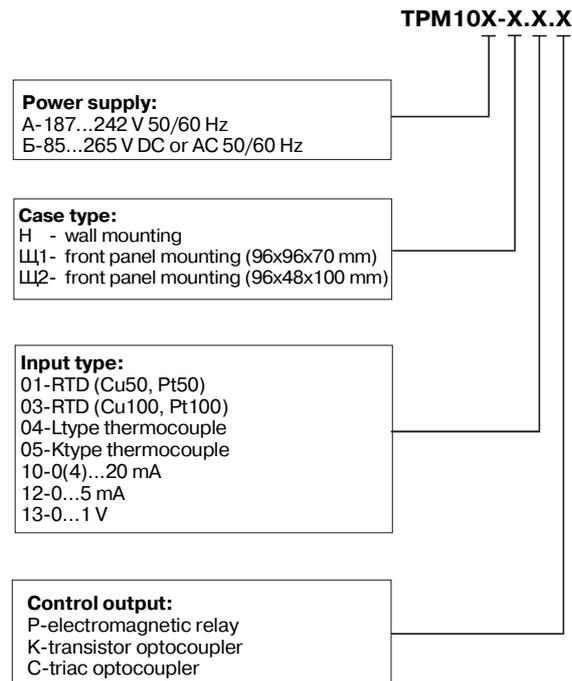

Fig. 1
2.1. OWEN company offers a few versions of TPM10 depending on power input, mounting case, sensor type and PID output. Numbering codes are shown in Fig. 1.